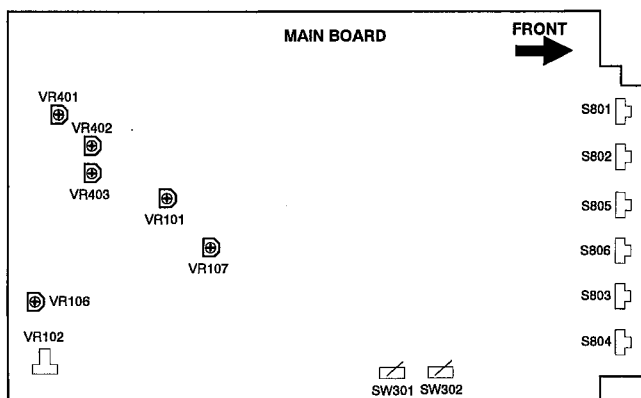

Figure 4-1 Location of on Mainboard & Neckboard
1. Input a cross hatch pattern in 68.68kHz (1152x870) mode and adjust VR101 on the main board (see figure 4-1 for approximate location) so the high voltage is in the range $27kV \pm 0.1$.
VR102 (see Figure 4-1 for approximate location) so that the voltage of G1 read on a digital multimeter is $-12V \pm 1$.
3. Before carrying out white balance adjustment, make sure that the VR106 (see Figure 4-1 for approximate location) position shall be turn counterclockwise to the end (ABL no action).
4. Before carrying out white balance adjustment, make sure that the internal contrast VR107 (see Figure 4-1 for approximate location) shall be turn to the center position.
- a) Input a cross hatch pattern in primary mode. Adjust RCV (see Figure 4-1 for approximate location) get the color convergence of vertical line is in the most excellent way.
- b) Input a cross hatch pattern in primary mode. Adjust VR403 (see Figure 4-1 for approximate location) get the color convergence of center horizontal line is in the most excellent way.
- c) Input a cross hatch pattern in primary mode. Adjust VR402 and VR401 (see Figure 4-1 for approximate location) get the color conver-